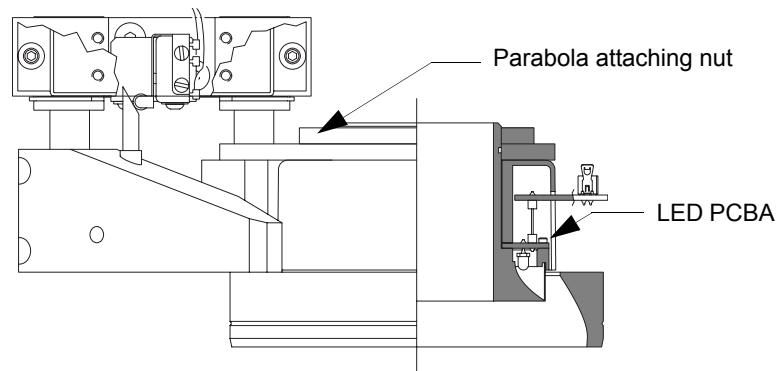

Figure 9-32 PRL Assembly
6. Using the PRL spanners, loosen and remove the parabola attaching nut from the parabola. The Parabola, LED PCBA Cover, and LED PCBA can now be lowered out of the toroid; refer to Figure 9-32.